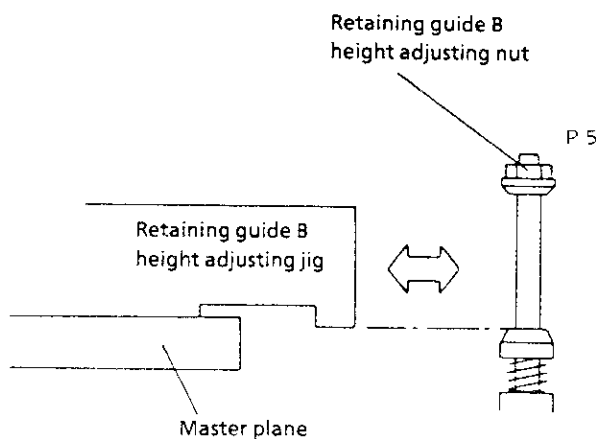

Figure2-11
- 2) Set the retaining guide B height adjusting jig as shown in Fig. 2-11 and check the height. Turn the adjusting nut slowly with the height adjusting driver to adjust the setting height.